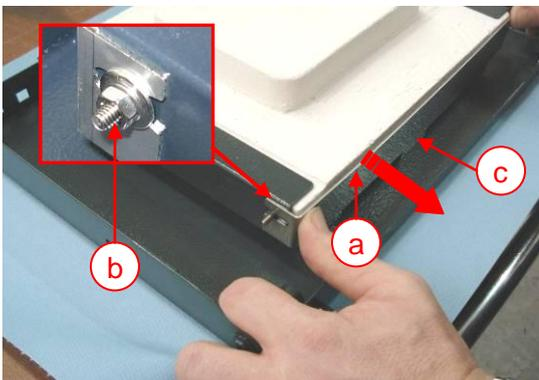

Fig. 7 – Remove firebrick holder
- After loosen the 2 pc. M4 nuts (Fig. 7 b), remove the firebrick holder (Fig. 7 a).
- Take care the lug of the holder is engaged in the door housing (Fig. 7 c)